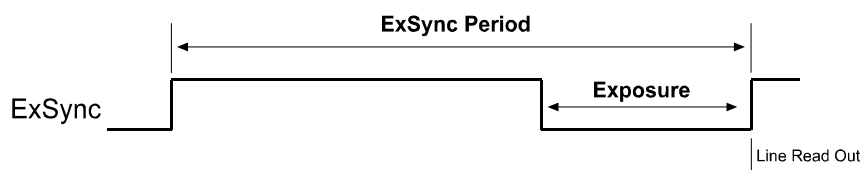

Figure 3-4: ExSync, Level-controlled Mode
- In **ExSync, level-controlled** mode, the exposure time is determined by the time between the falling edge of ExSync and the next rising edge. The pixels are exposed and charge is accumulated only when ExSync is low. The actual start of exposure is 0.050 μs later than the fall of the ExSync signal. The actual length of the exposure time will be equal to the ExSync signal low time plus 1.76 μs . The line is read out and transferred on the rising edge of the ExSync signal (see Figure 3-4).